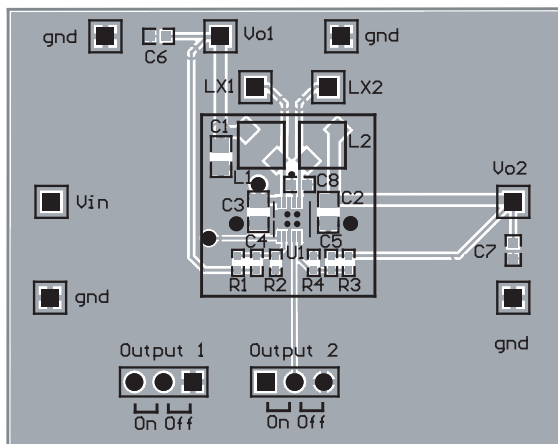

Figure 4: AAT2512 Evaluation Board Top Side.
The proper placement of the input capacitor (C3 and C8) can be seen in the evaluation board layout in Figure 4. Since decoupling must be as close to the input pins as possible, it is necessary to use two decoupling capacitors. C3 provides the bulk capacitance required for both converters, while C8 is a high frequency bypass capacitor for the second channel (see C3 and C8 placement in Figure 4).
1. Due to the pin placement of  $V_{IN}$  for both converters, proper decoupling is not possible with just one input capacitor. The large input capacitor C3 should connect as closely as possible to  $V_P$  and GND, as shown in Figure 4. The additional input bypass capacitor C8 is necessary for proper high frequency decoupling of the second converter.